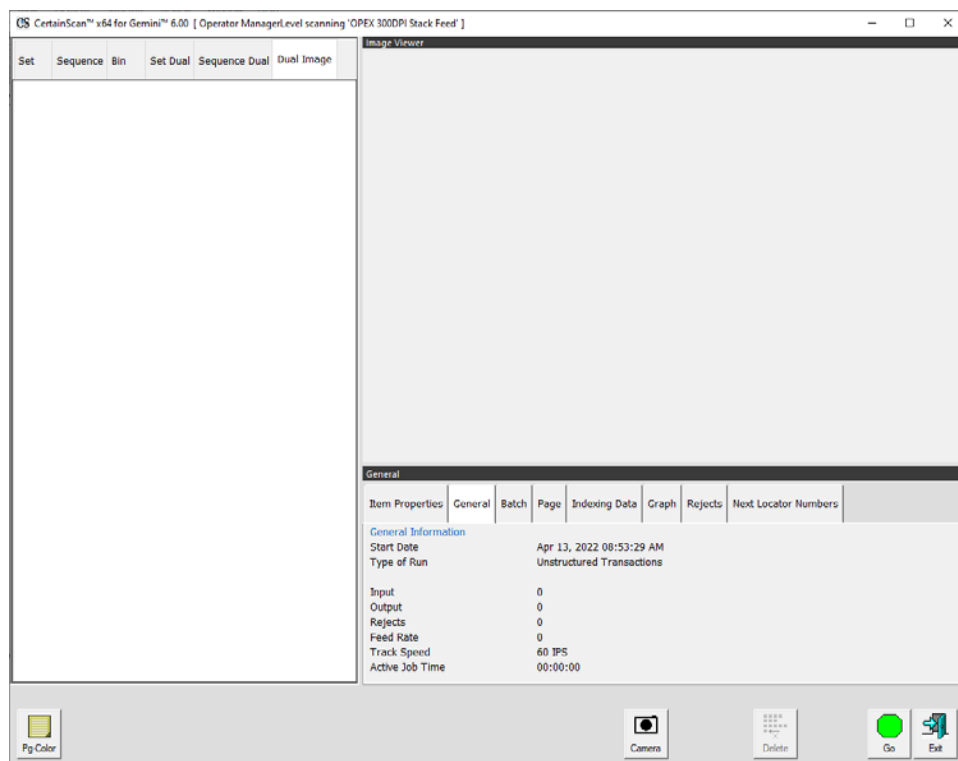

Figure 3-9: Run Screen
- Run Screen: The Job Page Type(s) are displayed, click on the **Go** button to begin scanning. No batch data entry required (Figure 3-9).